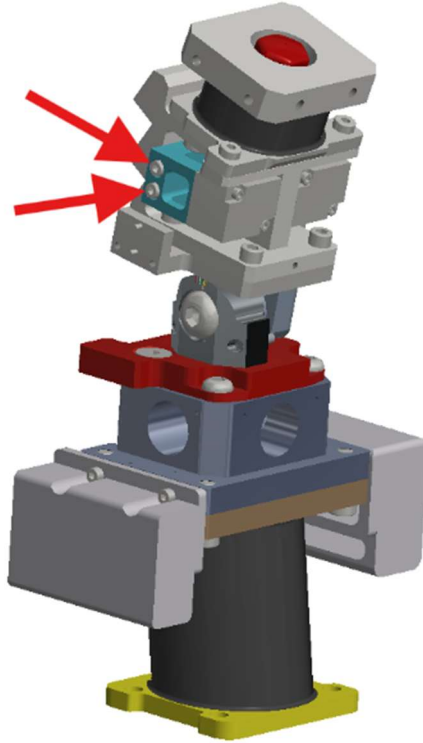

Figure 6-14. Remove the two On Board DAS Structural Replacements (474-8208)
- 6.2.6 Remove the two On Board DAS Structural Replacements and Mounting Brackets (474-3009-A and 474-3001-A) on either side of the Lower Spine Box (474-3101-A) by removing two M4 X 0.7 X 35 LG. SHCS SS (Figure 6-14).